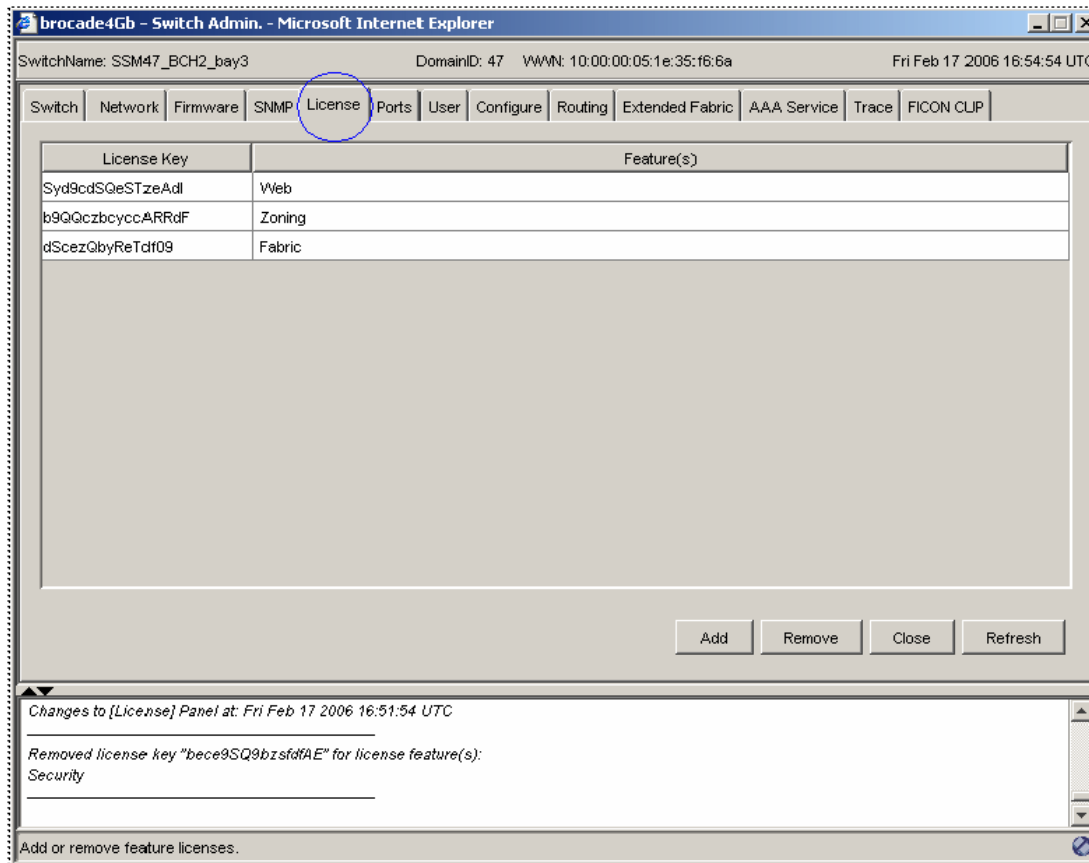

Figure 5-15 License management window
6. Use Web Tools to enable the licensed feature. Under the Switch Admin Window (Figure 5-15), select the **License** tab and use the **Add** button to add the License Keys.